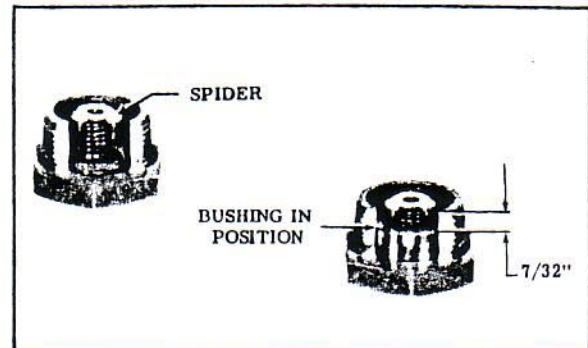

FIGURE 19
4. Place bumper bushing (B, Fig. 3) in intake valve (A, Figure 3) so the narrow edge seats on the bottom feet of the spider. The top of the bushing will then be approximately 7/32" from the top of the valve (Figure 19).